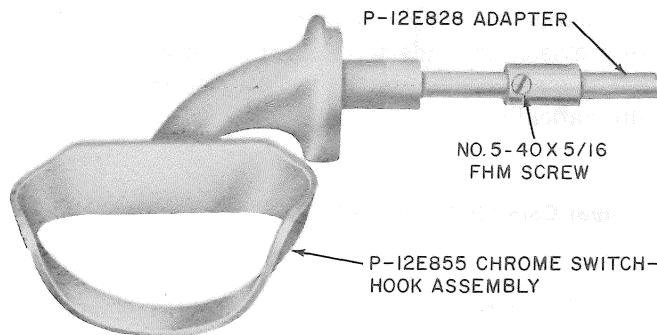

Fig. 12—Two-Piece Switchhook Assembly
- 2.33** Later models of coin collectors have 2-piece, chrome-plated P-12E855 switchhook assemblies (Fig. 12).